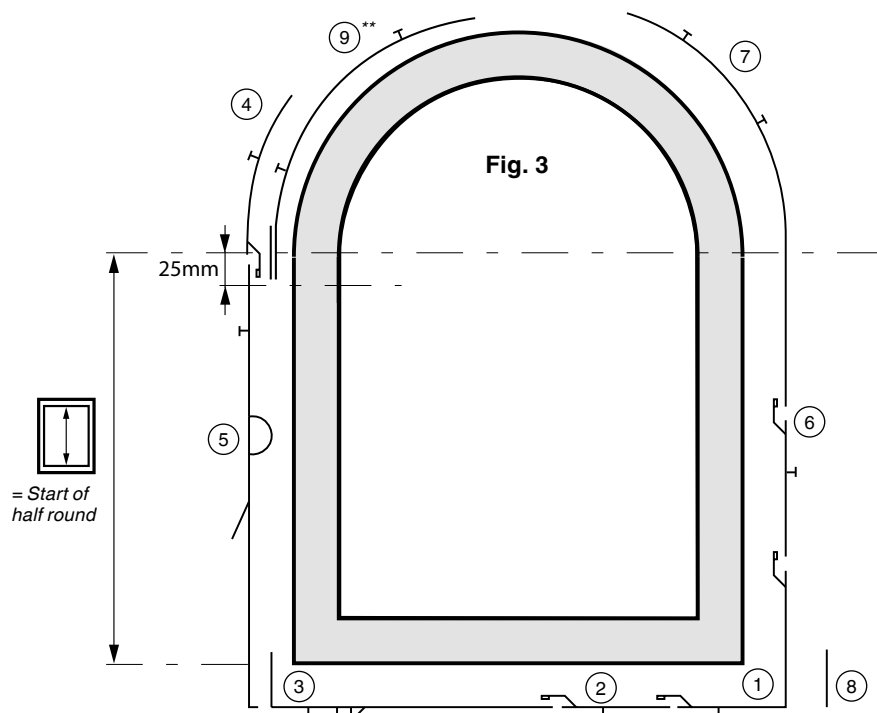

Fig. 1
The use of a sash lifter striker and run up wedge is compulsory (refer to page 46/Fig. 1)!
- Attach the corner support jig (no. 21562/ 21564) and predrill (refer to page 19/ Fig. 1)
- Insert **corner element** ① opening on the SRW faceplate extension / Insert centre lock ② and screw-fix together.
- Crop the half **corner element** ③ / extend and screw-fix together with the corner element (Fig. 1).
- Install **top end-piece** ④ or **additional scissor-stay*** ⑨ (if required).